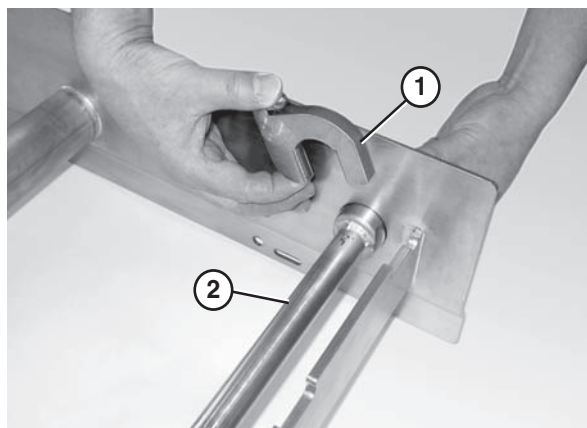

Figure 29
2. Attach the key stops (**Figure 29, item 1**) to the tip up shaft (**Figure 29, item 2**). The rounded end of the key stop should be facing the tail.